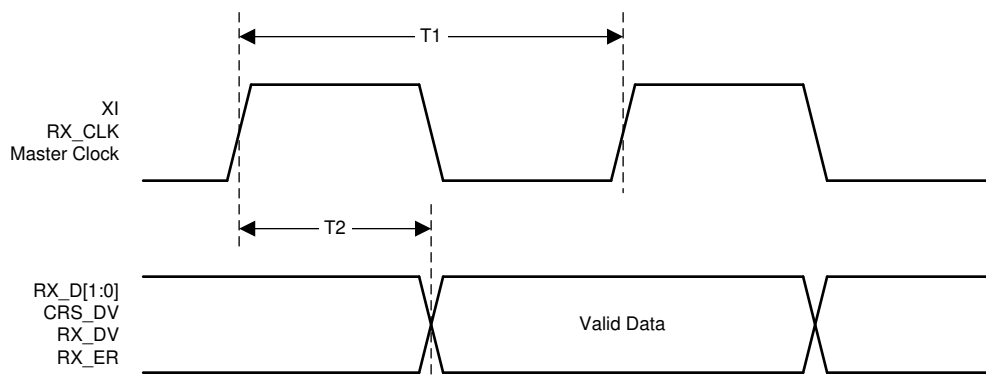

Figure 7-10. RMII Receive Timing
(1) Ensured by production test, characterization or design.
(2) See Figure 7-10.